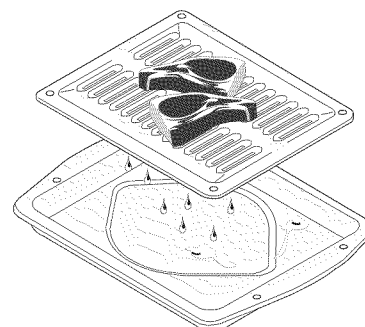

Fig. 1
**Quick Convection Cooking System** uses a fan to circulate the oven's heat uniformly and continuously around the oven. This improved heat distribution allows for fast, even cooking and browning results. It also gives better baking results when using two racks at the same time (See Fig. 1).
5. Place the insert on the broil pan (if equipped), then place the food on the insert (if equipped - See Fig. 1).
**CAUTION** To insure proper results when broiling use a broil pan and broil pan insert (See Fig. 1).